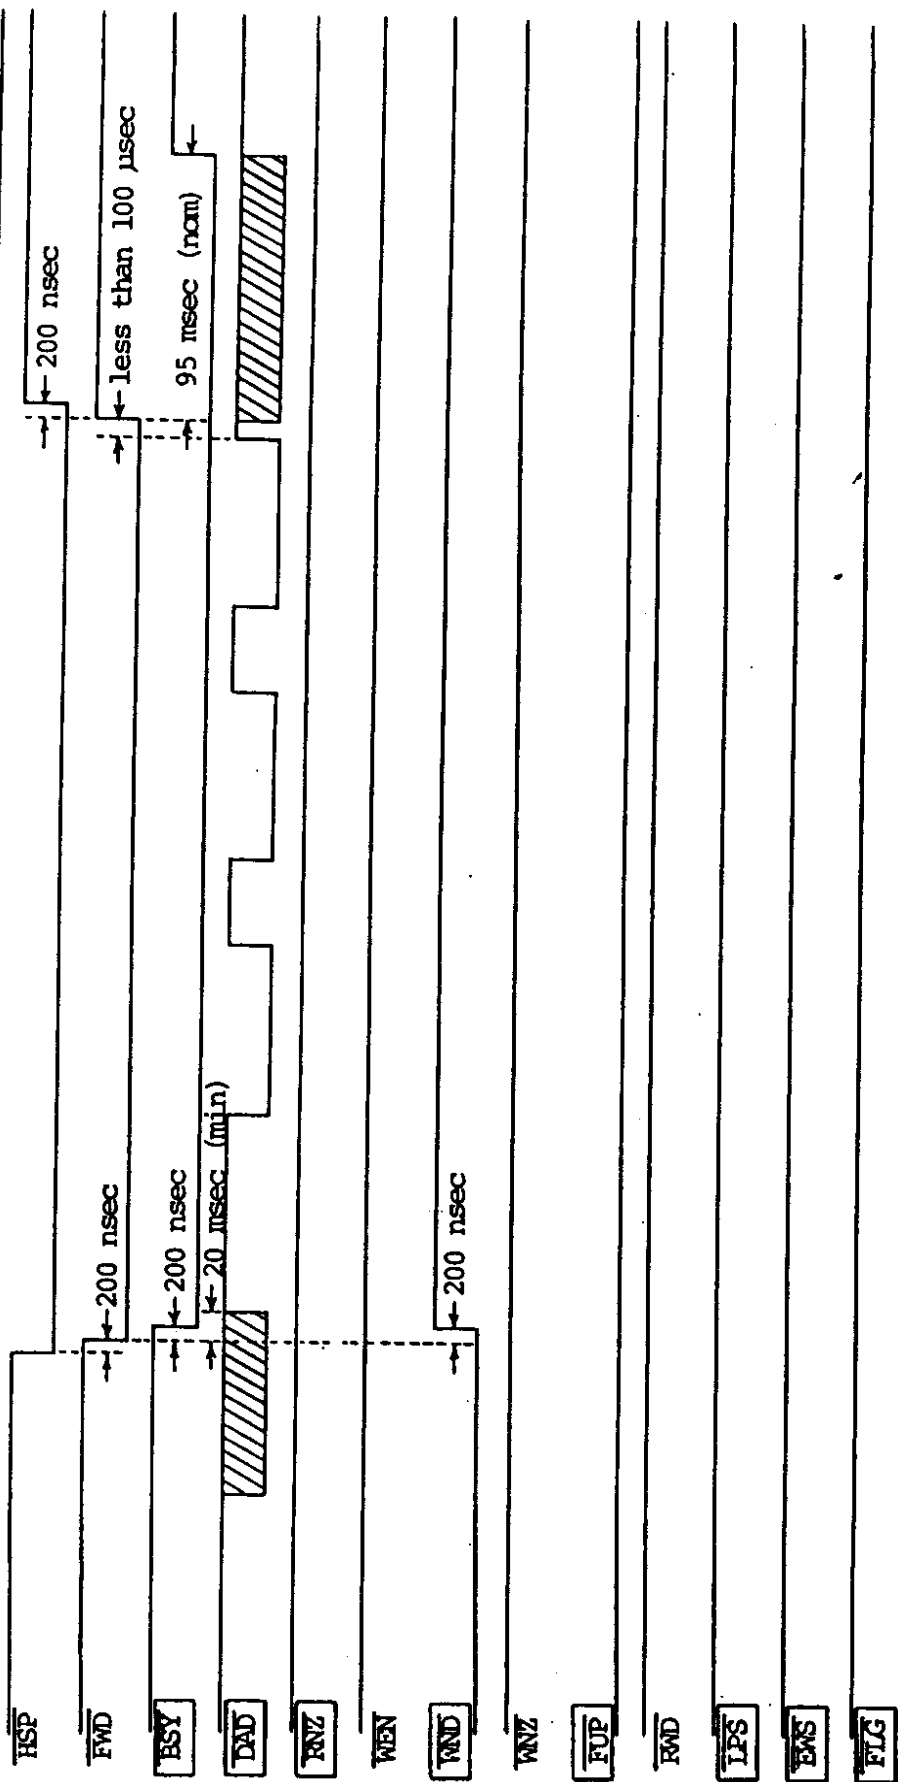

Figure 5.4, High Speed Search Operation
5.3.3 HIGH SPEED SEARCH OPERATIONS. Figure 5.4 shows a high speed search following a write operation (WND true). Items to note are: